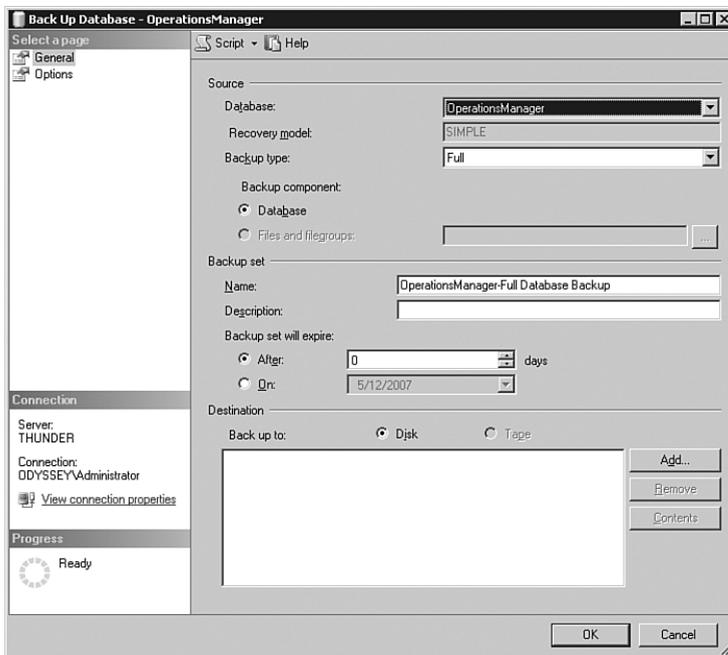

FIGURE 12.4 The SQL Server Management Studio Manager backup screen.
1. In the left panel of SQL Server Management Studio, navigate to Databases -> OperationsManager. Right-click on the OperationsManager database, select Tasks, and then choose Backup, which brings up the Back Up Database General page shown in Figure 12.4.